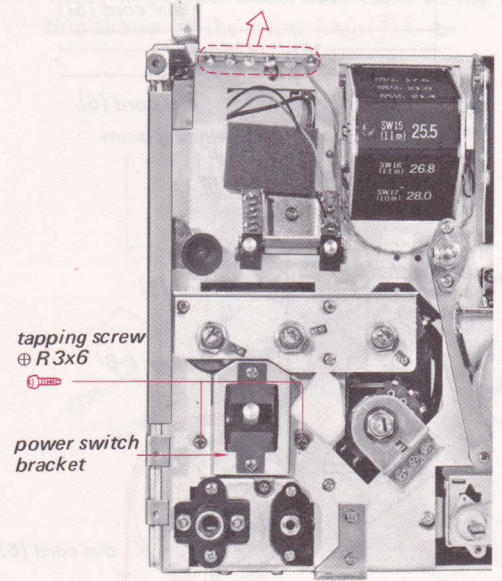

Fig. 2-33
2. Remove the two screws shown in Fig. 2-33.